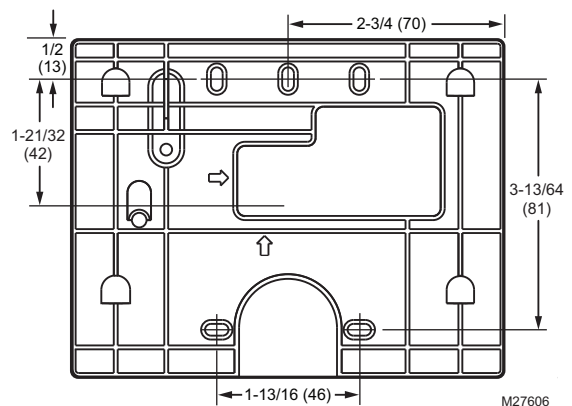

Fig. 9. S7999C wallplate dimensions in in. (mm).
2. Use the device wallplate as a template to mark the location of three or four mounting screw holes. See Fig. 9.